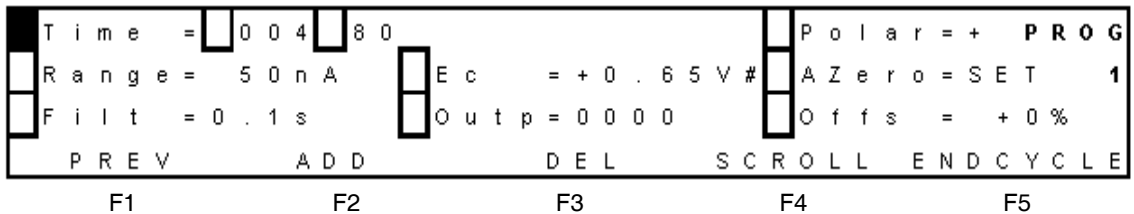

Figure 3-31 Prog Screen After Changing Cell Potential
d. Select **Ec**, then change the value to **+0.65V**. The suffix # appears when the cell potential changes (Figure 3-31).